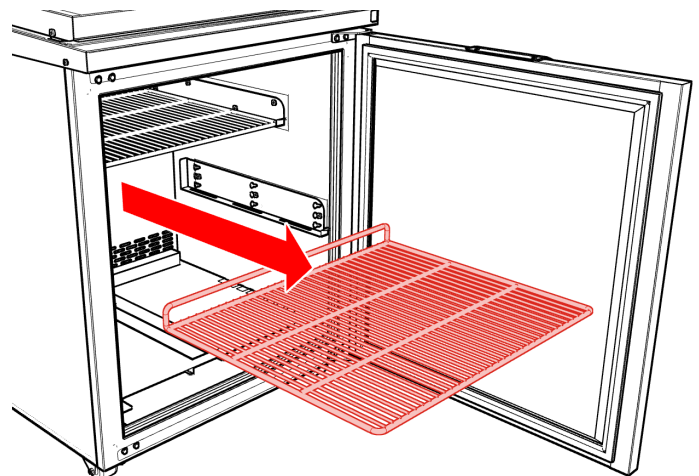

Fig. 23
1. Empty all product from middle shelf. Remove shelf from support rails (Fig. 23). Wash, rinse, and sanitize shelf, then allow to fully air dry.